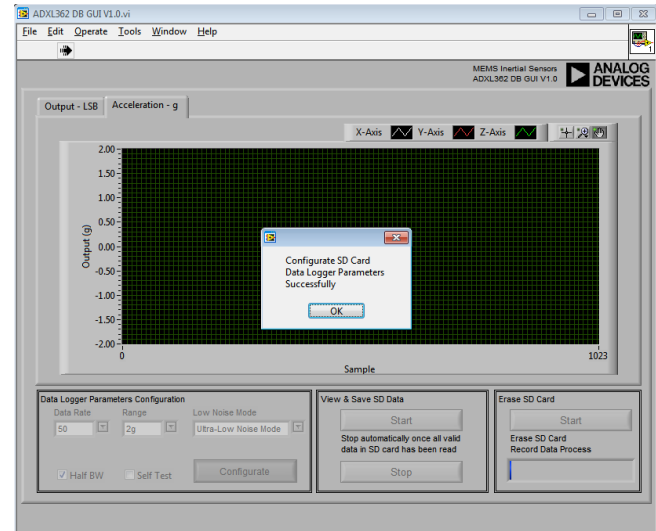

Figure 35. Configure SD Card Data Logger Parameters Successfully
12. Go to **SD Data Logger** tab, you can configure ADXL362 output data rate (SD data logger frequency is based on this), measurement range, different work mode for power/noise tradeoff, internal low-pass filter pole and self test. After selection, please click **Configure** button in **Data Logger Parameters Configuration** section, if there is no problem with hardware configuration, Figure 35 will be shown. If there is something wrong with the SD card, it will give the warning message to let you check SD card.